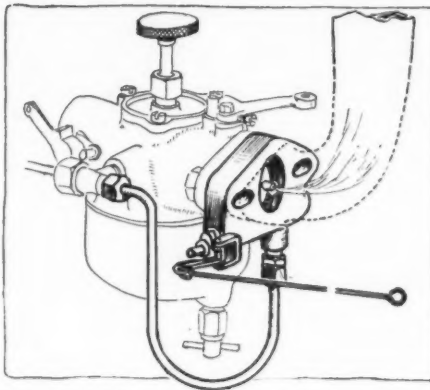

Fig. 6—Injex applied to Holley carburetor
**Injex Primer**—To allow easy starting of the motor in cold weather the Reflex Ignition Co., 211 High avenue, Cleveland, O., has brought out the primer shown in Fig. 6 for \$2.50.